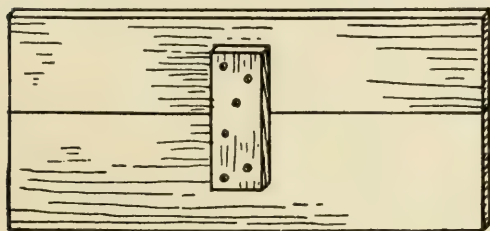
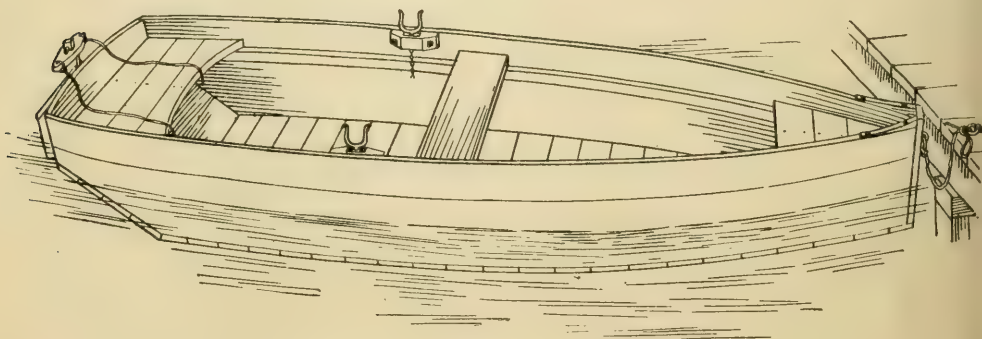

FIG. 439. — The End Seat.
FIG. 444. — A Home-made Sharpie.
under side of the end seats as shown in Fig. 439, to prevent them from springing apart and catching one's clothes between them.
**Dimensions.** Figure 444 shows a sharpie 13 feet long, 3 feet 6 inches wide amidships, and 18 inches deep.
**Seats** should be fastened in the bow and stern ends and in the center as shown in Fig. 444. These should be supported upon cleats, and the neatest way to put on the cleats is to make them continuous as shown in the illustration, and fasten them low enough so they will cover the seams between the side boards. Batten together the pieces of the bow and stern seats as shown in Fig. 439, page 354.